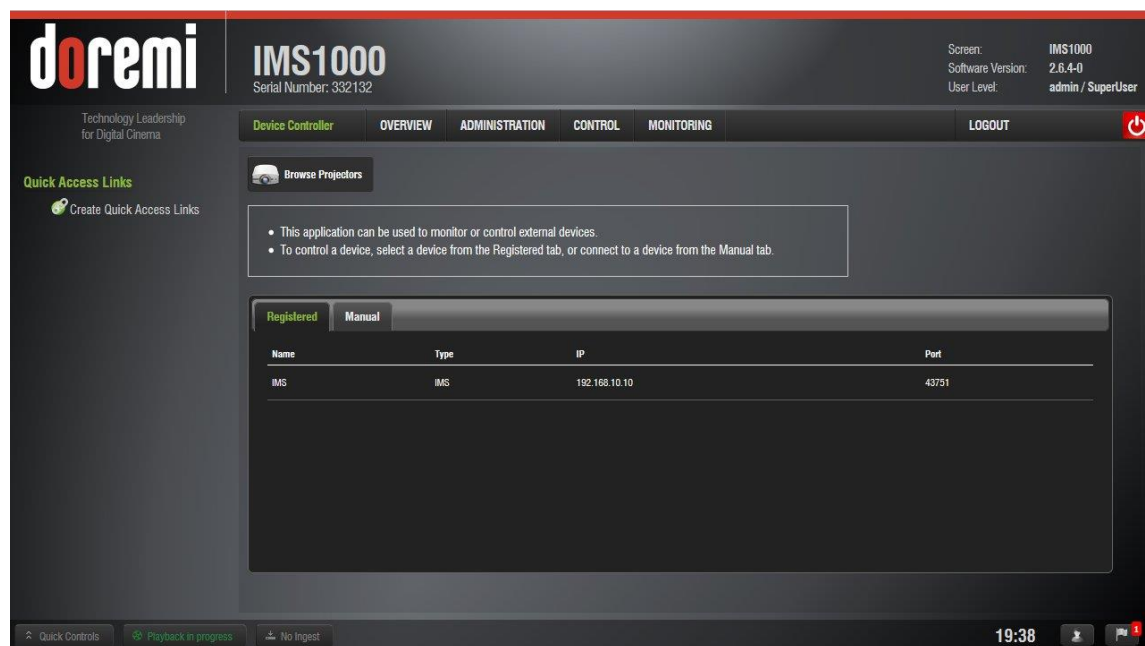

Figure 309: Registered Tab
- Select the device to control and then click on it. The Device Controller window will display four tabs that will allow the user to configure, control, and manage the device (Figure 309).